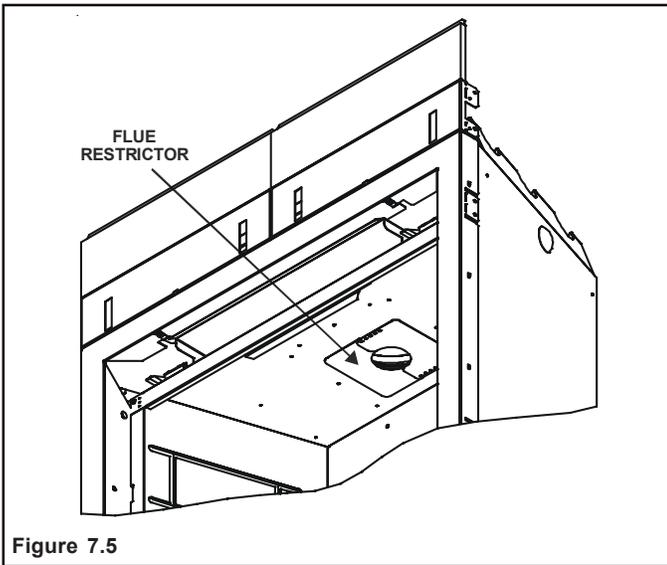
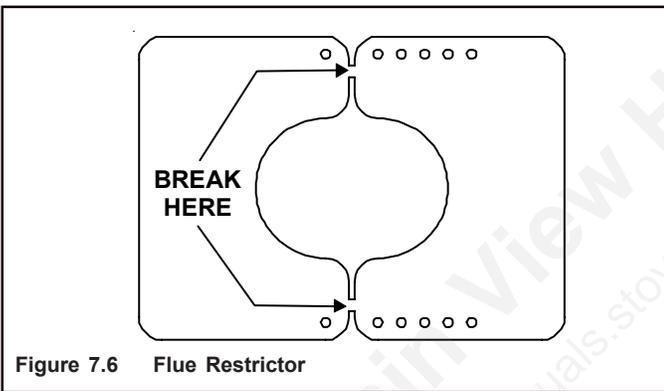

Figure 7.5
Figure 7.6 Flue Restrictor
1. Break the Flue Restrictor (see Figure 7.5) into two pieces. Do this by bending the part back and forth until it breaks (see Figure 7.6).